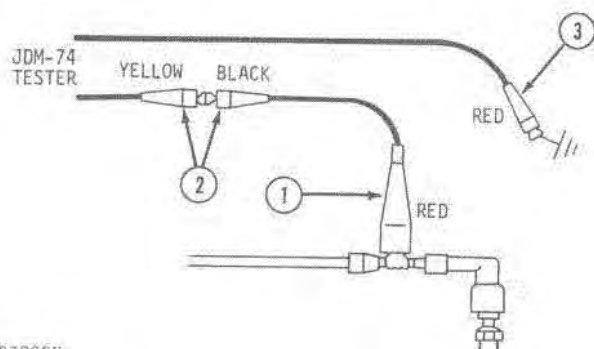

Fig. 1-Connections for Test #1
1. Connect test adaptor (red end) to either spark plug cable (as close to plug as shown, Fig. 1).